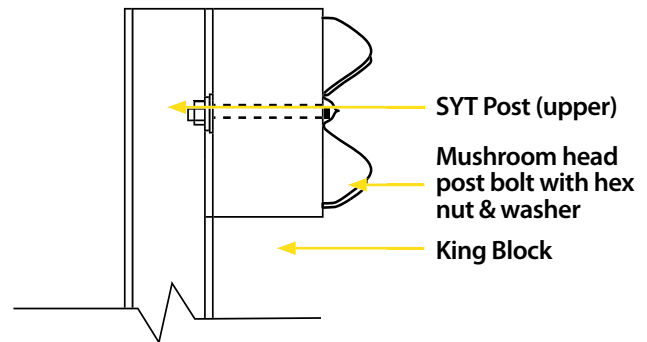

Figure 2: Attachment of King Block
- At posts 3 through 8, bolt rail panels with the correct lap orientation with a 5/8" (16mm) diameter x 10" (255mm) long mushroom head post bolt. A 5/8" (16mm) diameter round washer (C1631) and a 5/8" (16mm) hex nut (C1632) secures the rail and block to the post. The washer is located between the post and the nut. See Figure 2.